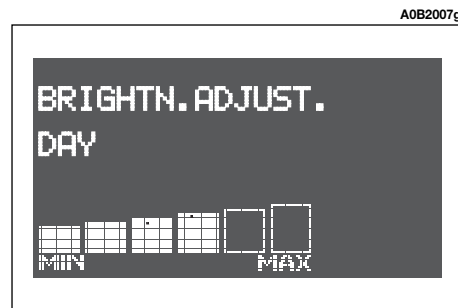

fig. 80
- if the outside lights are off, the message BRIGHTN. ADJUST. DAY will appear on the display (fig. 80).